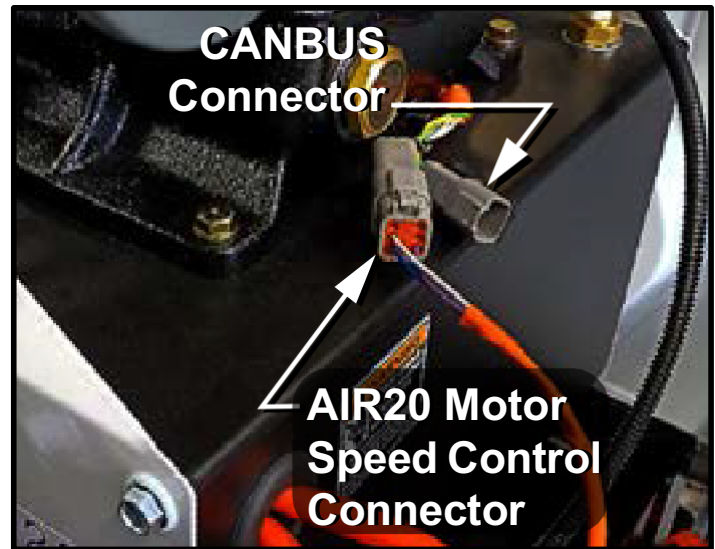

Figure 1-5
7. Signal wires from the toggle switch connect to the motor speed control plug on top of the AIR20 - near the oil level sight glass. (See *Figure 1-5*)
12. If used - connect the CANBUS plug from the wire harness into the CANBUS connector ON the compressor to enable communication with the ELiMENT™ Battery. See (*Figure 1-5*)
1. Before each use - always check the oil level in the sight glass on a level surface. Ideally oil level should be at the halfway mark - however it is acceptable if it falls between 1/4 and 3/4 full. (See *Figure 1-5*)